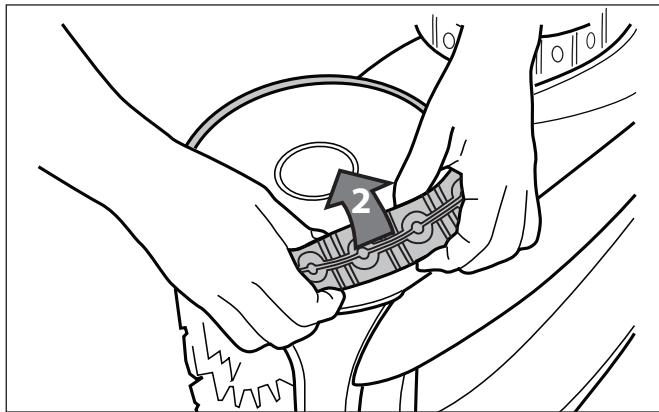

Figure 34. Remove the Old Tire
2. Remove the old tire (Figure 34).